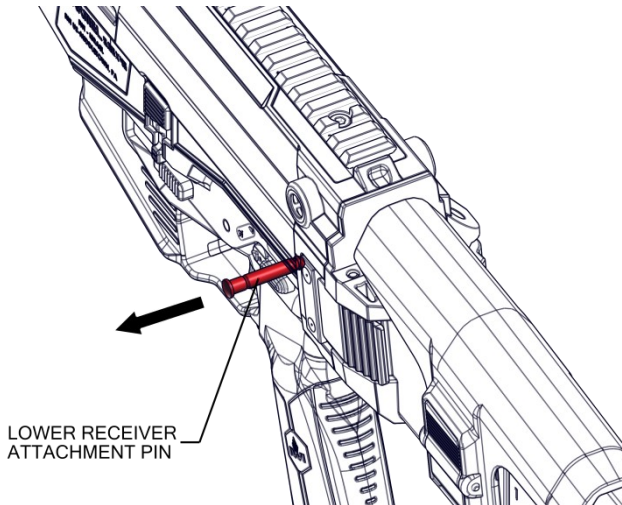

Figure 10-6 – Pulling Out Lower Receiver Attachment Pin
2. Pull it out from the other side till it stops (Figure 10-6).